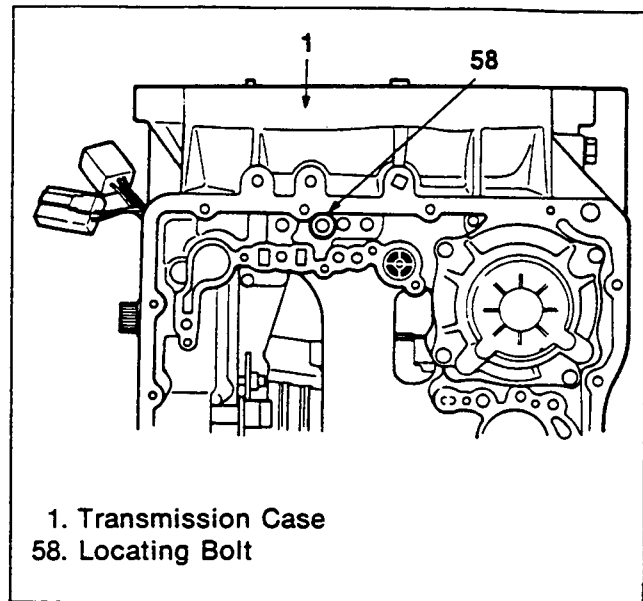

Figure 19. Locating Bolt Removal
2. Remove the drum support locating bolt using a hexagonal wrench (figure 19).